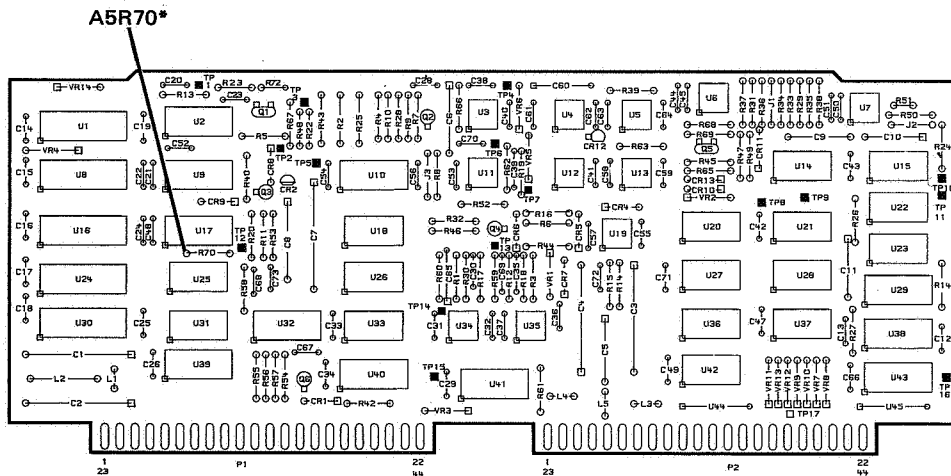

Figure 5-13. Location of Sweep Retrace Time Adjustments.
7. A5R70\* is selected to give a counter reading of 15.85 ± 0.20 ms. Refer to Table 5-2 for the range of values allowable for A5R70\*. Refer to Figure 5-13 for A5R70\* component location.